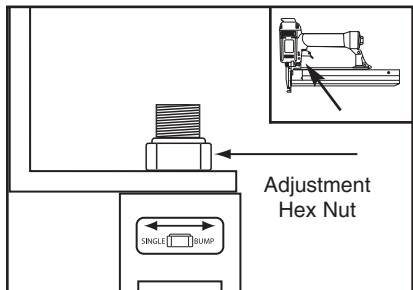

Figure 3. Loading staples into stapler.
2. Locate the hex nut that secures the safety yoke mechanism to the trigger housing. See **Figure 3**.